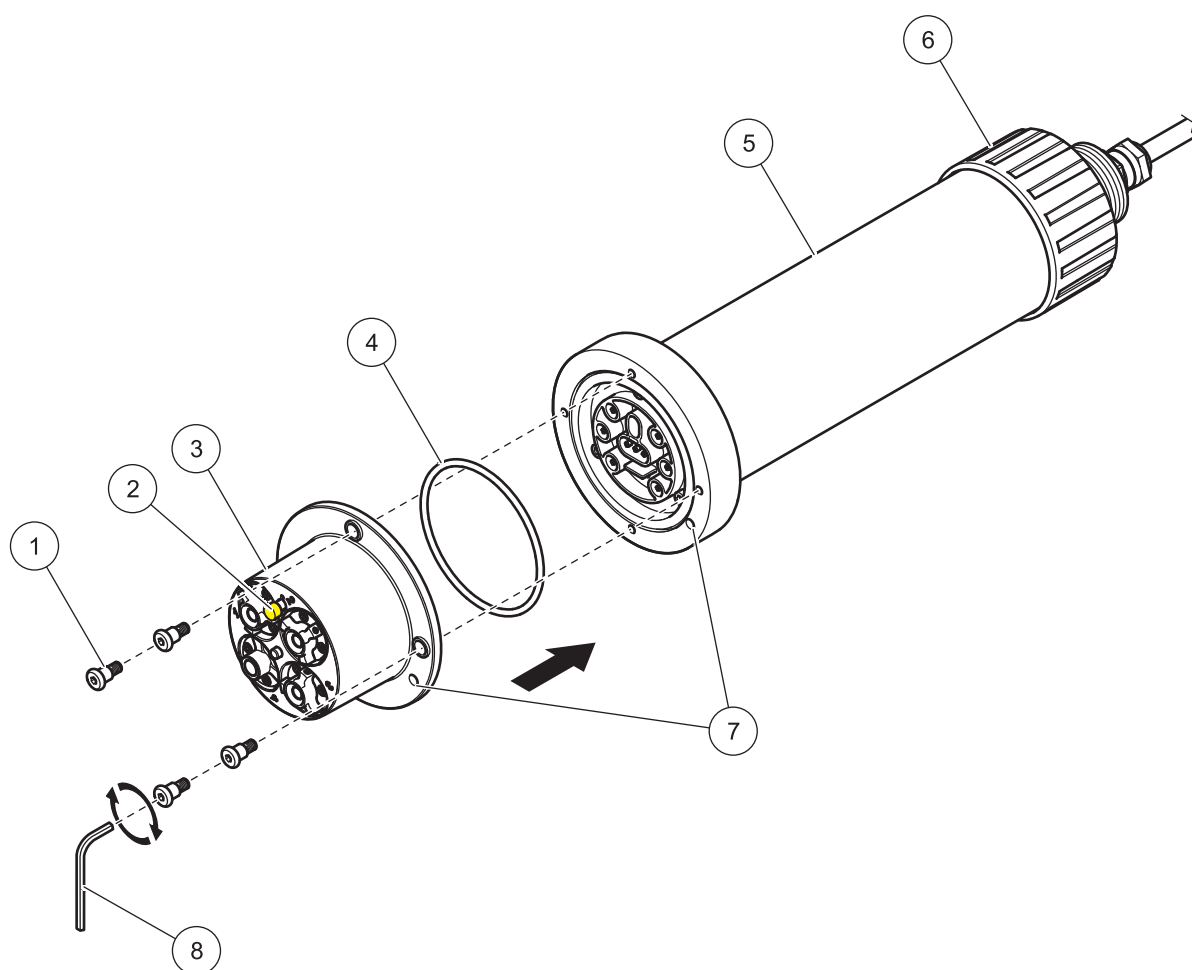

Figure 10 Probe assembly
1. Place the black gasket Figure 10, Page 17 in the recess on the sensor body.
3. Align the marker hole on the sensor cartridge with the marker hole on the probe adapter (refer to Figure 10, Page 17)